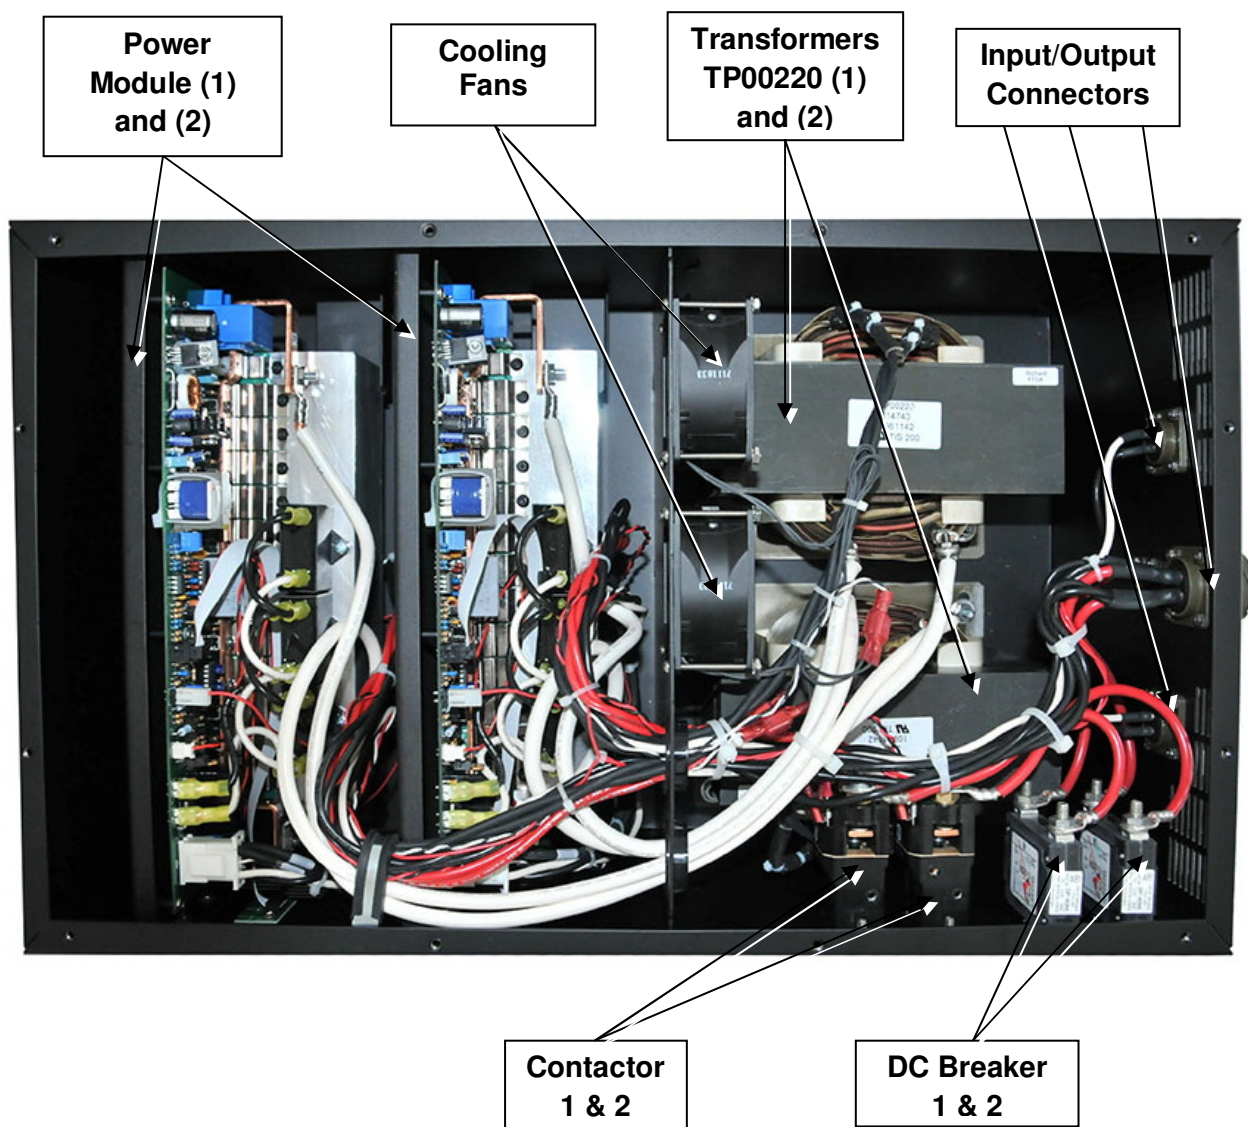

Figure 3: Inverter with Top Cover Removed
1.6.1 WITH TOP COVER REMOVED - See Figure 3
1.64 INPUT PROTECTION – See Figures 3 & 4